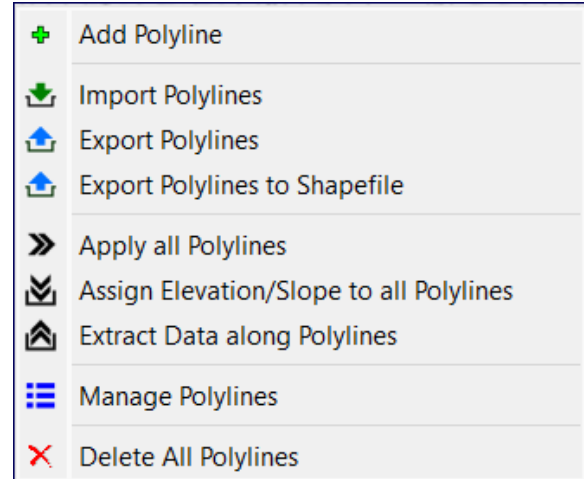

Figure 17. The Polyline Menu
- **Polylines Menu** (Figure 17): The Polylines Menu contains functions that apply to all polylines and can be accessed by right-clicking on the Map Viewer.
1. Polyline Menu (Figure 17)